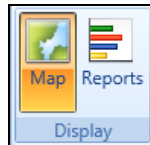

Figure 5-23 Metric Results Tab – Display Ribbon Group
1. Click the *Reports* button in the *Display* ribbon group (Figure 5-23).